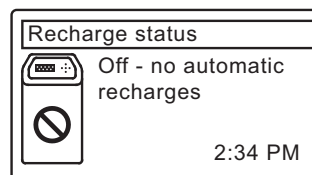

FIG. 35
6. Press the LEFT (◀) button (twice from the Recharge status screen) to return to the rolling status screens. If **Recharge off** was selected, the normal sequence of rolling screens will stop at the screen shown in Figure 35.